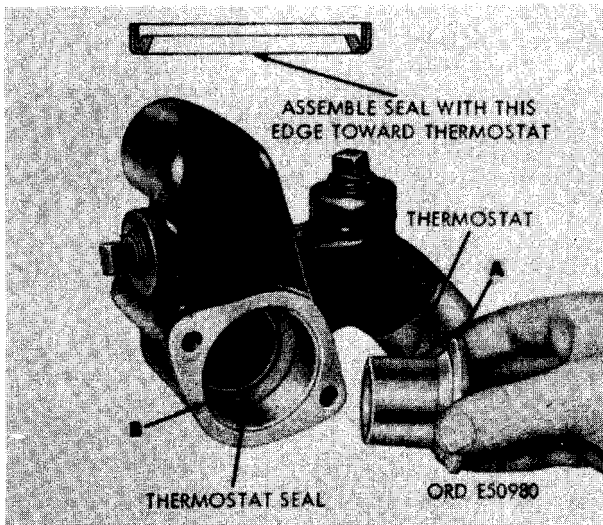

FIGURE 111. REMOVING OR INSTALLING THERMOSTAT AND THERMOSTAT SEAL.
- (3) Figure 111. (A) Remove thermostat from thermostat housing assembly. (B) Inspect thermostat seal. When defects are noted, replace seal.